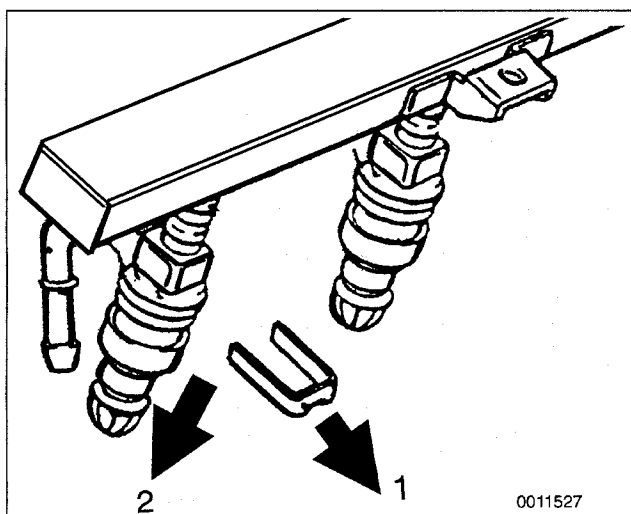

Fig. 18. Pry retaining clip from injector (1), then pull injector from rail (2).
7. Pull up on fuel rail and remove injector rail with injectors. Remove individual injectors by removing injector retaining clip and pulling injector from rail. See Fig. 18.